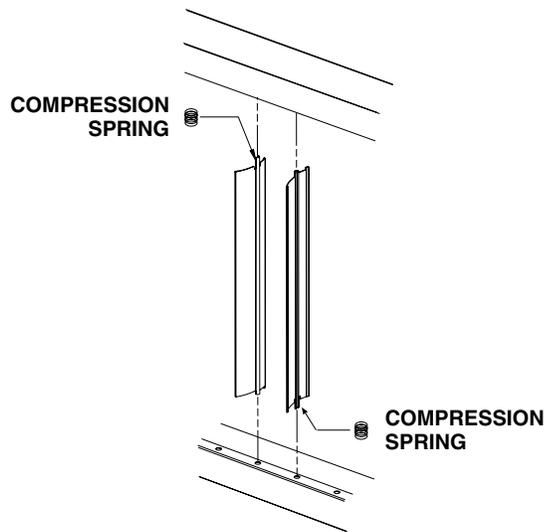

Figure 3. Louver Installation
- b. With wider louver blade facing in toward heat exchanger, push tab with compression spring into hole in top or bottom louver frame (see **Figure 3**)—spring compresses. Insert tab on other end of louver into opposite louver frame. For left airflow, compress spring into top louver frame. For right airflow, compress spring into bottom louver frame.